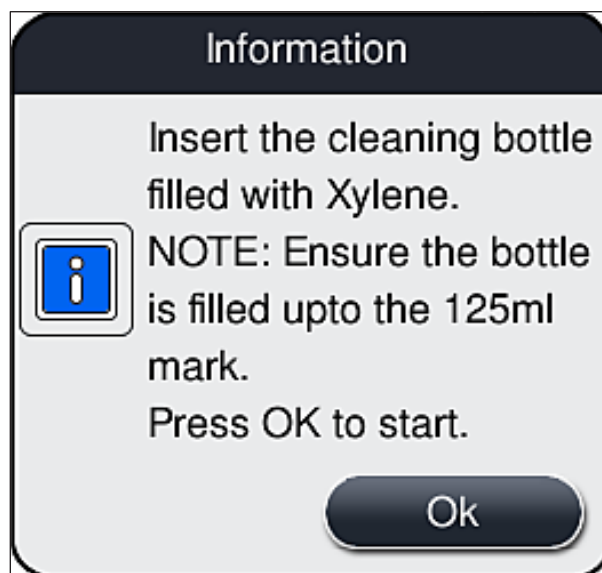

Fig. 101
10. Then confirm the information message (→ Fig. 101) with **OK**.